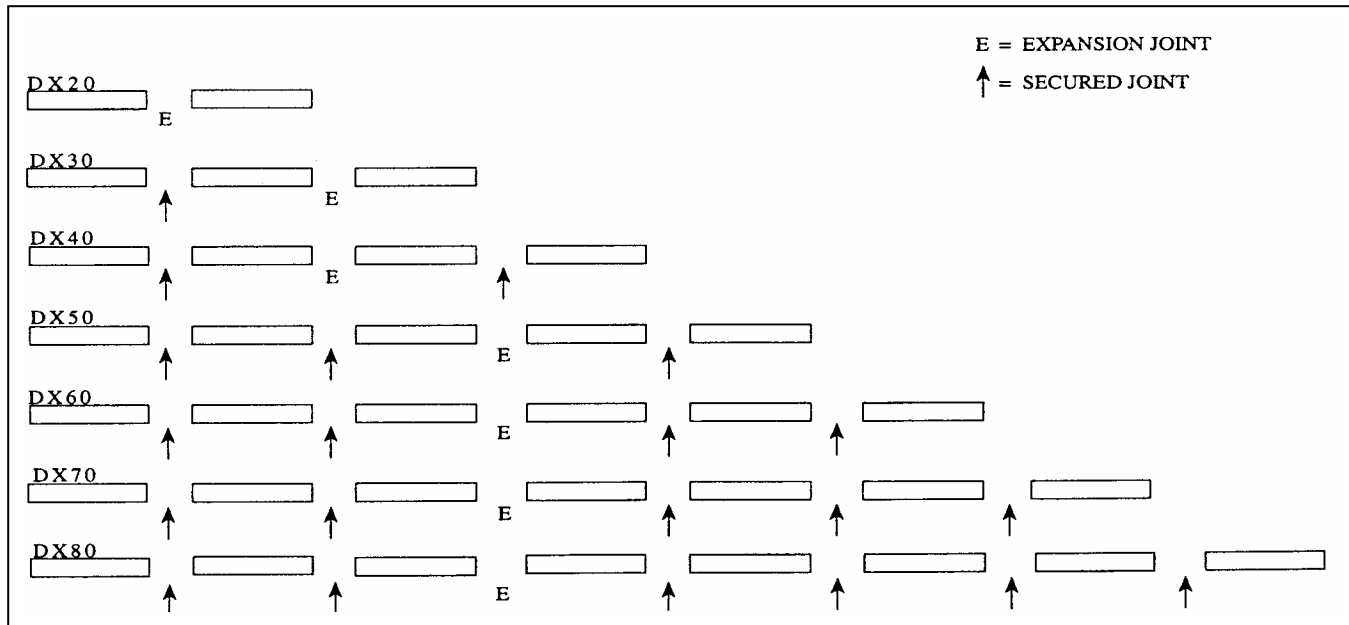

Figure 2-12
3. Secure reflectors together with sheet metal screws (not supplied) at points indicated by arrows (see figure 2-12). Make sure to leave an expansion joint.